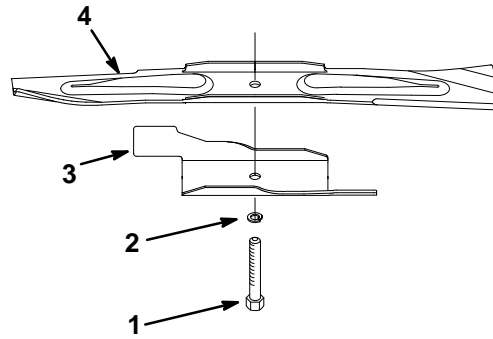

Figure 28
2. Remove the blade bolt, lockwasher, blade accelerator and blade (Fig. 28).
- Install the blade, blade accelerator, lockwasher, and blade bolt (Fig. 28).